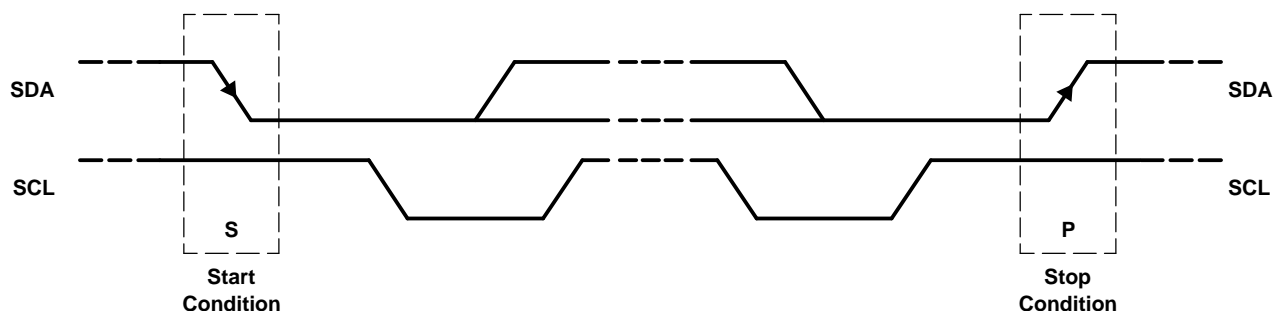

Figure 41. START and STOP Conditions
- The *master* initiates data transfer by generating a *start condition*. The *start condition* is when a high-to-low transition occurs on the SDA line while SCL is high, as shown in Figure 41. All I²C-compatible devices should recognize a *start condition*.
- To signal the end of the data transfer, the master generates a *stop condition* by pulling the SDA line from low to high while the SCL line is high (see Figure 41). This releases the bus and stops the communication link with the addressed slave. All I²C compatible devices must recognize the stop condition. On the receipt of a *stop condition*, all devices know that the bus is released, and they wait for a *start condition* followed by a matching address.